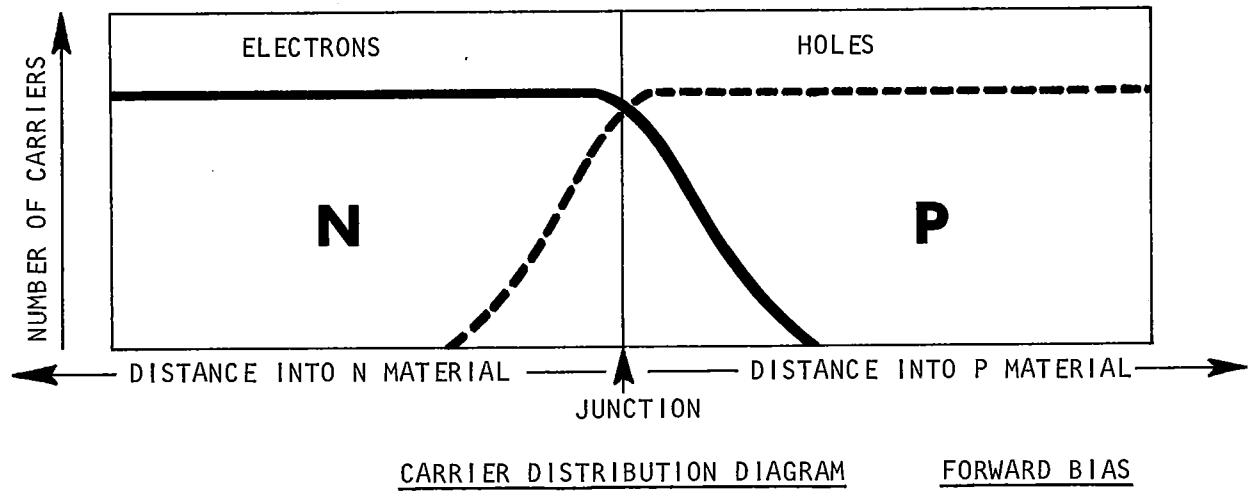

FIGURE 31B
37. The solid and dashed lines in figure 31B show that more holes and electrons have been moved across the junction with forward bias applied. These carriers are existing as \_\_\_\_\_ carriers, and represent a \_\_\_\_\_ about the junction.
38. In figure 31C, the area about the junction is depleted of carriers as a result of applied reverse bias. To change from the condition in figure 31B to the condition in 31C, the \_\_\_\_\_ must be removed.